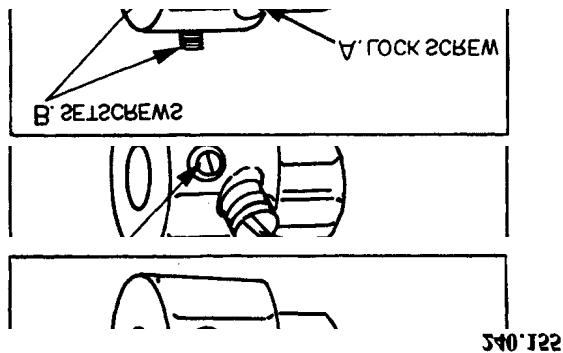
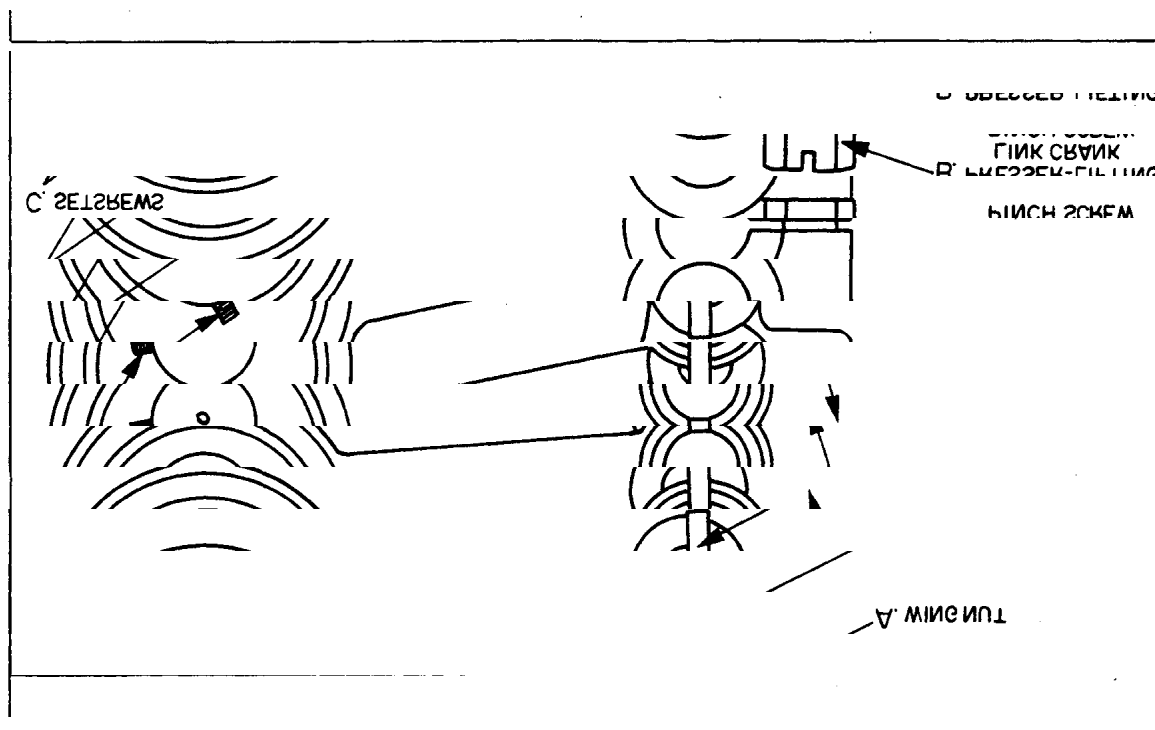

Figure 4-10A.—Presser-lifting eccentric connection link.
Figure 4-10B.—Presser-lifting eccentric.
b. Turn the balance wheel and loosen the two set screws (figure 4-10B [C] and figure 4-10 [A]) on the presser-lifting eccentric.
The total relative lift of the alternating pressers referred to here is that the feet lift one-half inch at total lift. Maximum lift of the alternating pressers is set to sew on heavier goods. There are two types of adjustments, and either type may be found on a given machine. The first type of alternating presser (figure 4-10A) is usually found on earlier sewing machines, while the second type of alternating presser (figure 4-10B) seems to be in current manufacture.
- (1) Turn the balance wheel toward the operator until the presser-lifting eccentric lock screw (figure 4-10A [A]) is visible inside the opening at the back of the arm of the machine. (See figure 4-11 [A], table 4-3, foldout at end of this chapter.)
NOTE: Figure 4-10A shows two setscrews (B). They are used to hold the presser-lifting eccentric in place on the feed-driving rockshaft. The adjusting screw is not visible in this figure.
- (1) Loosen the presser-lifting eccentric adjusting wing nut (figure 4-10B [A]).
(2) Move the assembly up to decrease the lift or down to increase the total lift of the alternating pressers.
- (3) Tighten the wing nut.